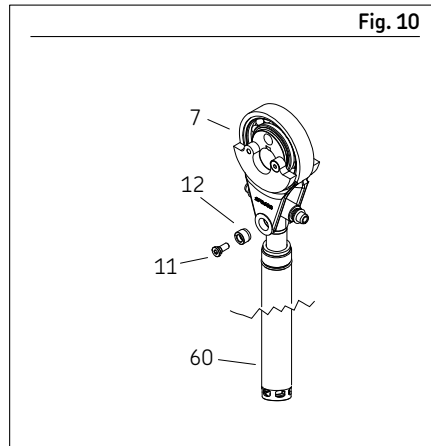

Fig. 10
- 1 Remove pivot screws (11) from crank rod (7) (→ Fig. 10).